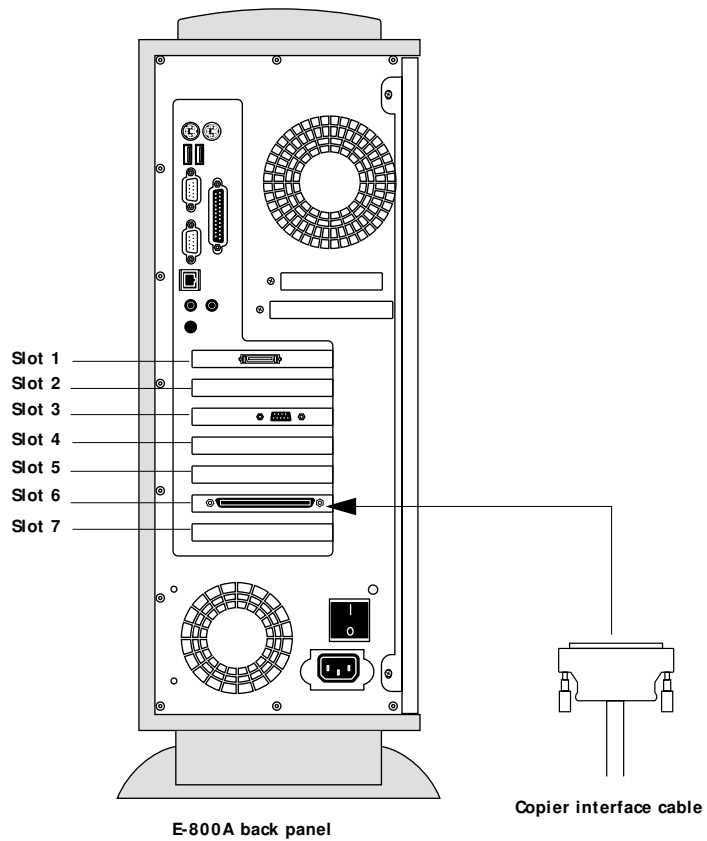

FIGURE 3-2 Copier interface cable connection
3. **Connect the other end of the cable to the E-800A copier interface connector (see Figure 3-2).**